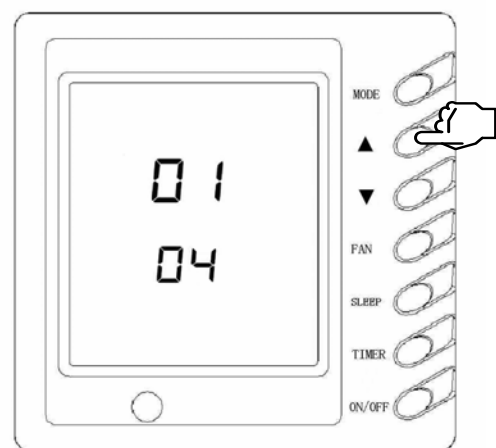

Fig.13
- ④: Under heating mode, select air inlet's temp sensor or under other modes select wired controller's temp sensor and setting temp area displays 04, as shown in Fig.13.